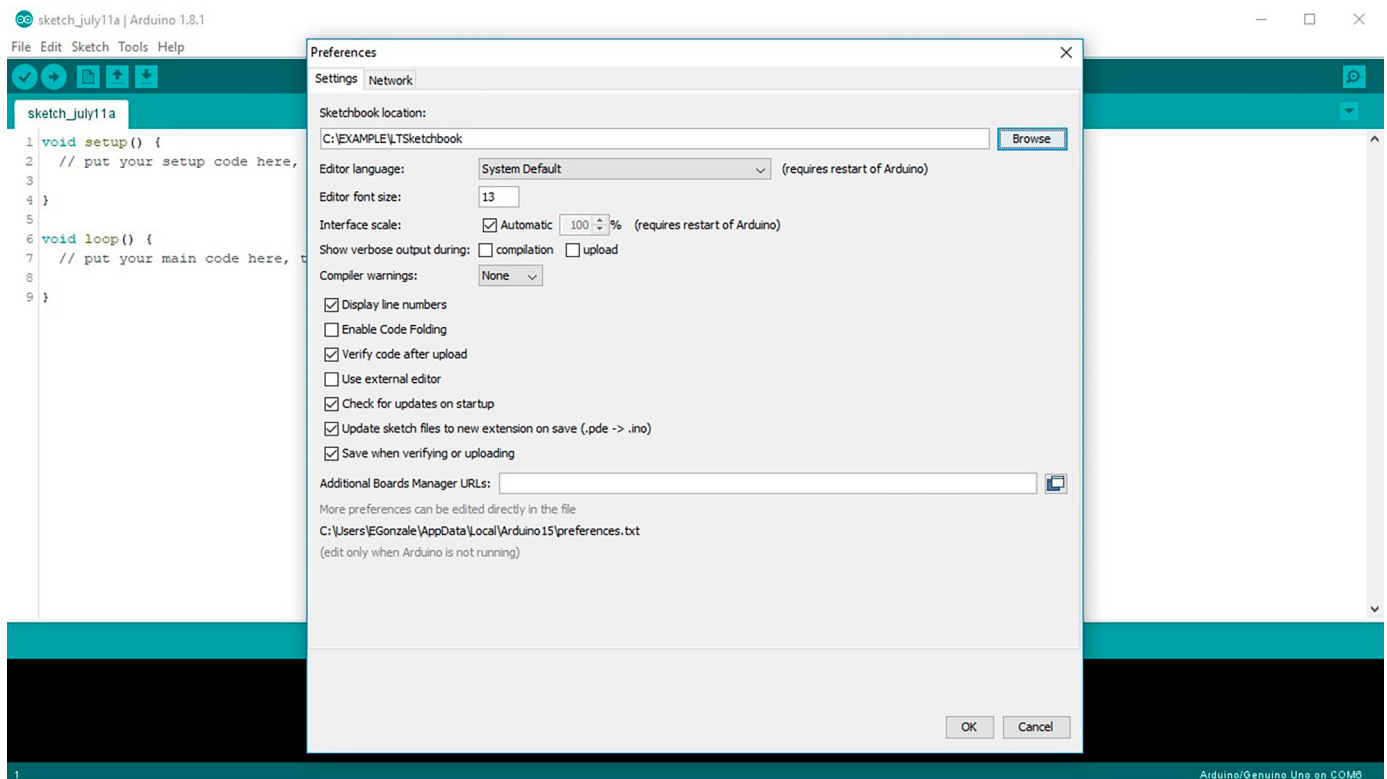

Figure 7. Sketchbook Location Path
2. Set the Arduino IDE to open BMS Sketchbooks. From within the Arduino IDE, click on **File** menu select **Preferences**. Then under **Sketchbook location**: select Browse and locate the path to the extracted **LTSketchbook.zip** file that was downloaded (see Figure 7).